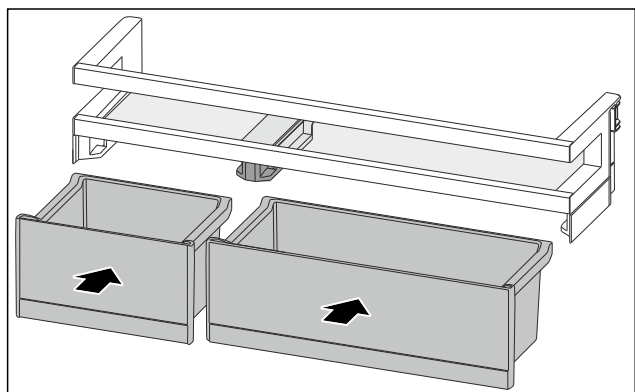

Fig. 83
- Insert the VarioBoxes in reverse order. (see Fig. 83)